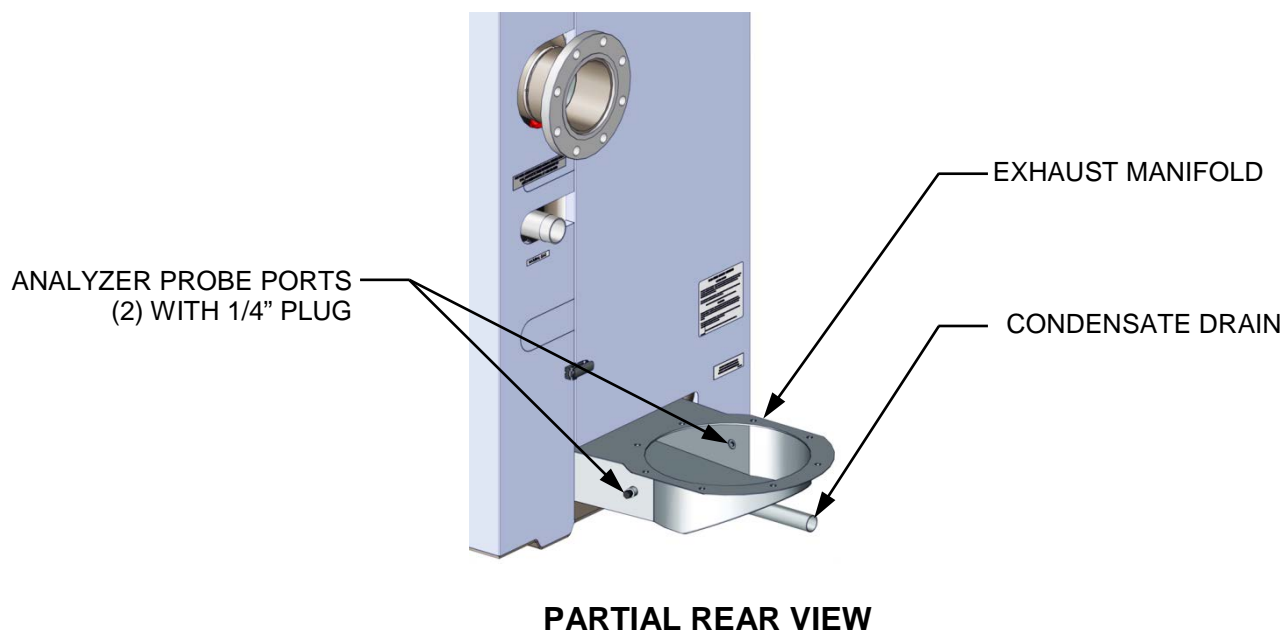

Figure 4-2: Analyzer Probe Hole Location
For easy access, the unit contains a total of two (2) 1/4" NPT ports. One port is located on the left side of the exhaust manifold and the other is on the right side (see Figure 4-2).
1. Refer to Figure 4-2 and remove the 1/4" NPT plug from the desired location on the exhaust manifold.